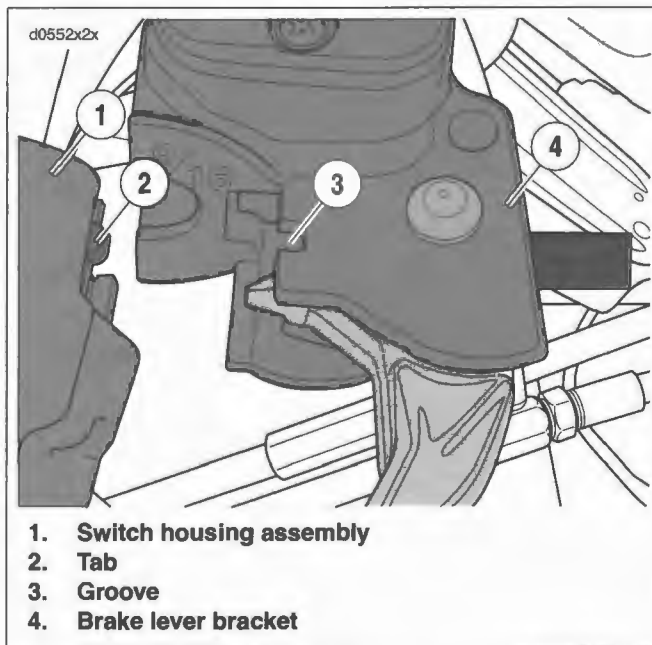

Figure 2-53. Attach Master Cylinder To Right Handlebar Switches
12. See Figure 2-53. Position the brake lever/master cylinder assembly inboard of the switch housing assembly engaging the tab (2) on the lower switch housing (1) in the groove (3) at the top of the brake lever bracket (4).